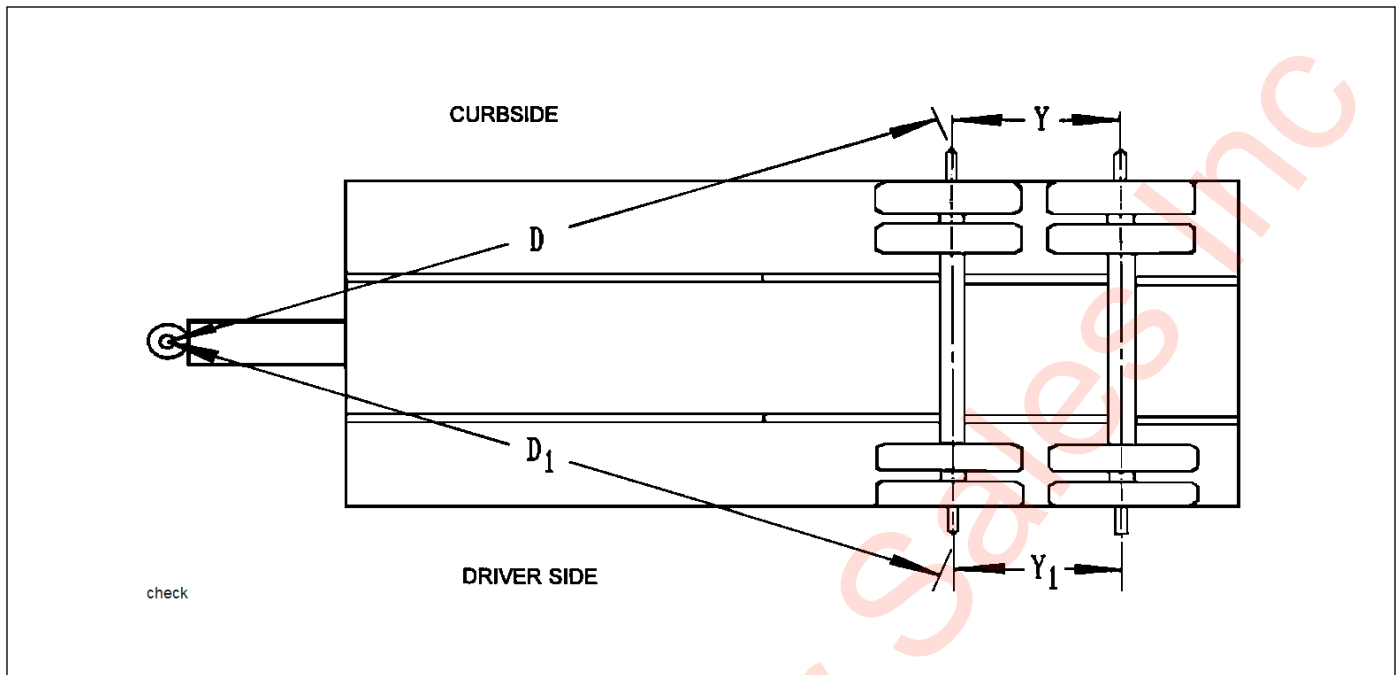

Figure 4-6: Checking Axle Alignment
3. Move the axle gauge and place against the back side of the axle. If either of the points of double point end fails to touch the axle surface, a bent spindle is evident. A point gap of .015" or more is considered excessive tire "toe" and the axle must be replaced (See Figure 4-6.)
4. Measure (D) from the plumb bob to the center point on one end of the axle. Record this measurement (See Figure 4-6.)
5. Measure (D1) to the other end of the axle in the same manner as in step 4. Record this measurement (See Figure 4-6.)